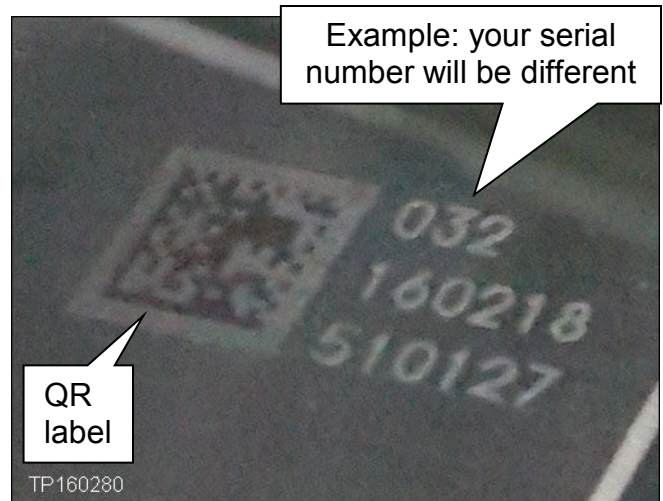

Figure 2
- If there is NO serial number (the area shown in Figure 2 is blank), **skip to step 9** for ABS control unit replacement.
- In the **example** in Figure 2, the serial number is **032160218510127** (this is an example, your serial number will be different).